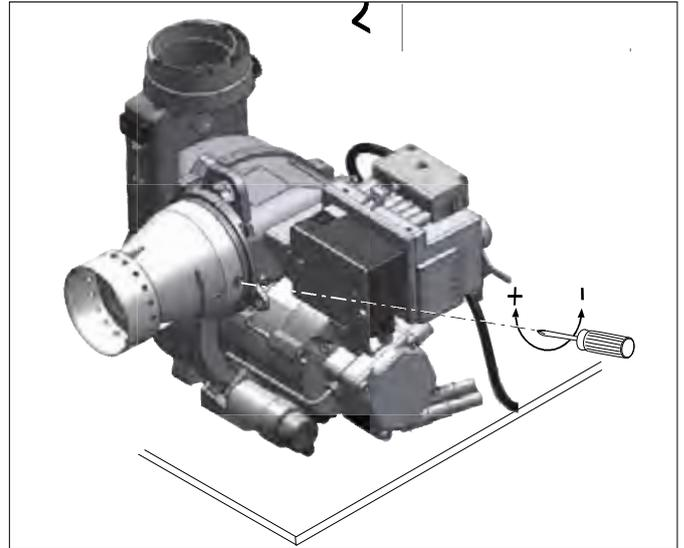

Figure 10-3: Removal of burner head
7. Re-fit the burner head. Refer to Figure 10-3.